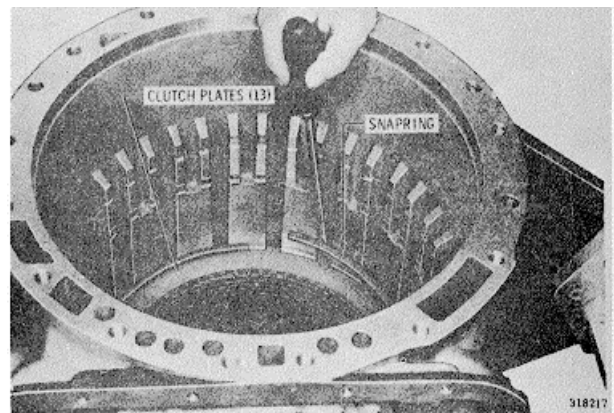

Fig. 7-4. Installing second clutch snapring
(2) Install the clutch plate retaining snapping (Fig. 7-4). Be sure the snapping gap is at the top of the transmission housing.
(8) Remove the snapping and the second clutch plates (Fig. 7-4). These plates are now preset for proper clearance and should be retained as a pack for final installation.